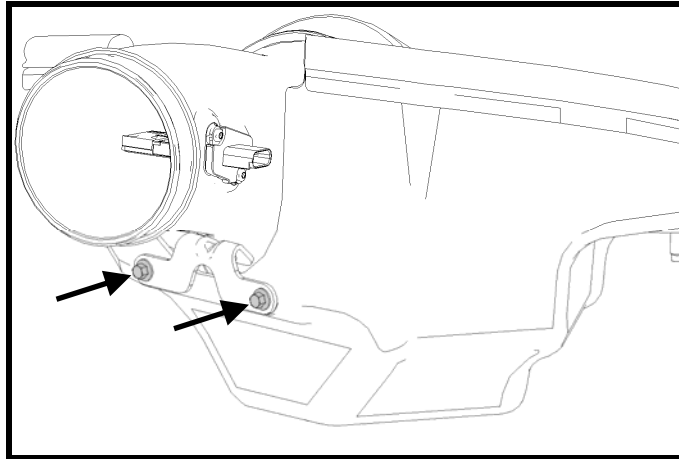

Fig. 32
STEP 16: Assemble the air tube and filter onto the airbox housing using two bolts (N605771) and torque to 10 Nm (88 lb in) (See Fig. 32).